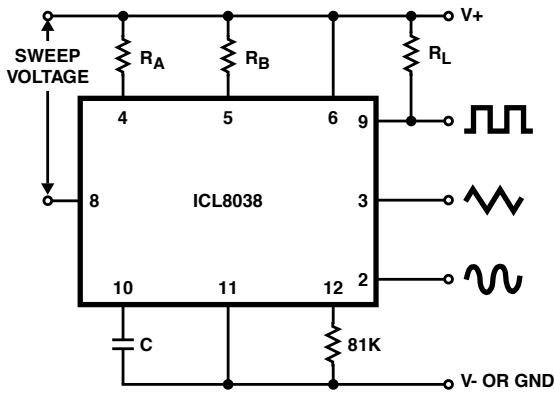

FIGURE 5B. CONNECTIONS FOR FREQUENCY SWEEP
7. The hi and lo frequencies can be obtained by connecting pin 8 to pin 7 (f_{HI}) and then connecting pin 8 to pin 6 (f_{LO}). Otherwise apply Sweep Voltage at pin 8 ($\frac{2}{3} V_{\text{SUPPLY}} + 2\text{V}$) $\leq V_{\text{SWEEP}} \leq V_{\text{SUPPLY}}$ where V_{SUPPLY} is the total supply voltage. In Figure 5B, pin 8 should vary between 5.3V and 10V with respect to ground.
For larger FM deviations or for frequency sweeping, the modulating signal is applied between the positive supply voltage and pin 8 (Figure 5B). In this way the entire bias for the current sources is created by the modulating signal, and a very large (e.g. 1000:1) sweep range is created (f = 0 at V_{SWEEP} = 0). Care must be taken, however, to regulate the supply voltage; in this configuration the charge current is no longer a function of the supply voltage (yet the trigger thresholds still are) and thus the frequency becomes dependent on the supply voltage. The potential on Pin 8 may be swept down from V₊ by (1/3 V_{SUPPLY} - 2V).